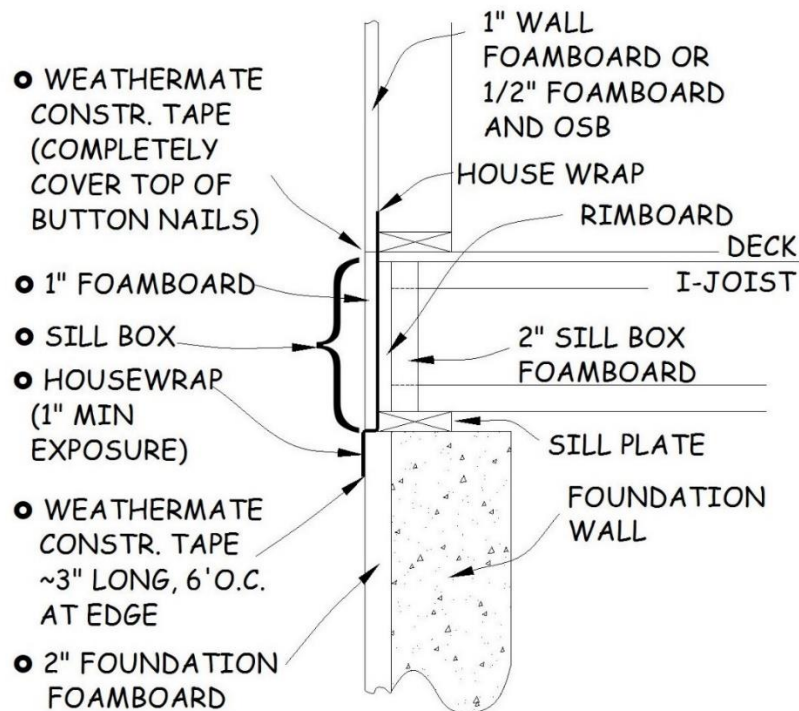

Figure 5-1. House Wrap and Foamboard Seams.
NOTE: Once the wall is erected, the wrap will hang the proper amount below the wall to shed water away from the house at any horizontal seam. The bottom of the wrap will fall slightly below the bottom of the foam sheathing and slightly over the 2" foundation foam (see Figure 5.1).
1. Measure and cut 1" foamboard to fit on the exterior of the sill box, **tightly** between the bottom of the wall foamboard and the foundation foamboard. Do the same below any OSB/½" foamboard wall panels. Install the foamboard with 2" button nails about 8" apart and 2" away from the top and bottom seams of the foamboard. Make sure the house wrap is **behind** this foamboard, leaving any extra wrap protruding from the seam between the bottom of the sill box foamboard and the top of the foundation foamboard (see Figure 5-1).
CAUTION: House wrap must extend at least 1" over the surface of the 2" foundation foamboard (see Figure 5-1). If it does not, see the Construction Supervisor.
foamboard every 6' with a 3" piece of Weathermate™ Construction tape just to hold it down (see Figure 5-1).